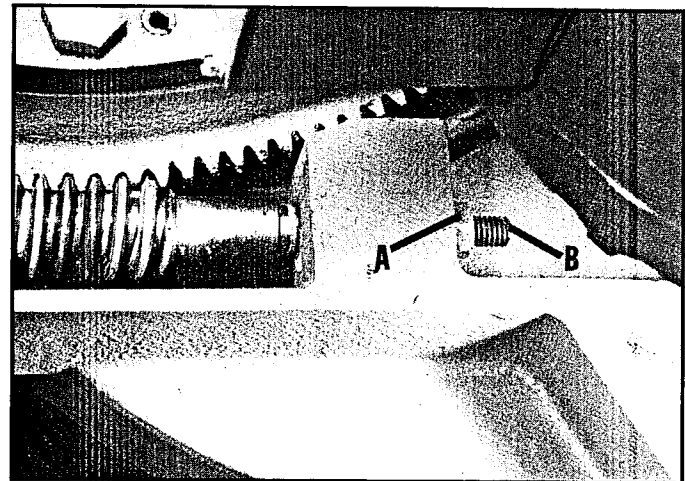

Fig. 59
1. After extensive use, end play in the elevating shaft could develop. This end play can be removed by loosening lock nut (A) Fig. 59 and tightening screw (B). Retighten lock nut (A) after adjustment has been made.